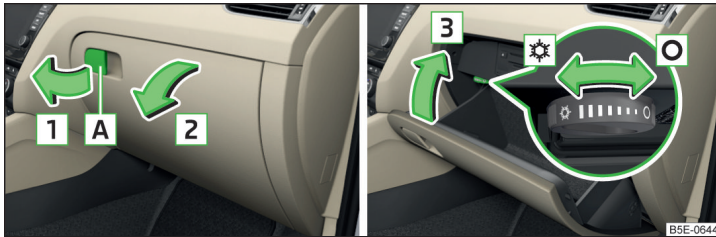

Fig. 106 Open storage compartment / close storage compartment and open air supply
- ▶ To **open**, pull the handle **A** in the direction of arrow **1** and fold the cover in the direction of arrow **2** » Fig. 106.
- ▶ To **open**, turn the rotary switch until it stops in the position  » Fig. 106.